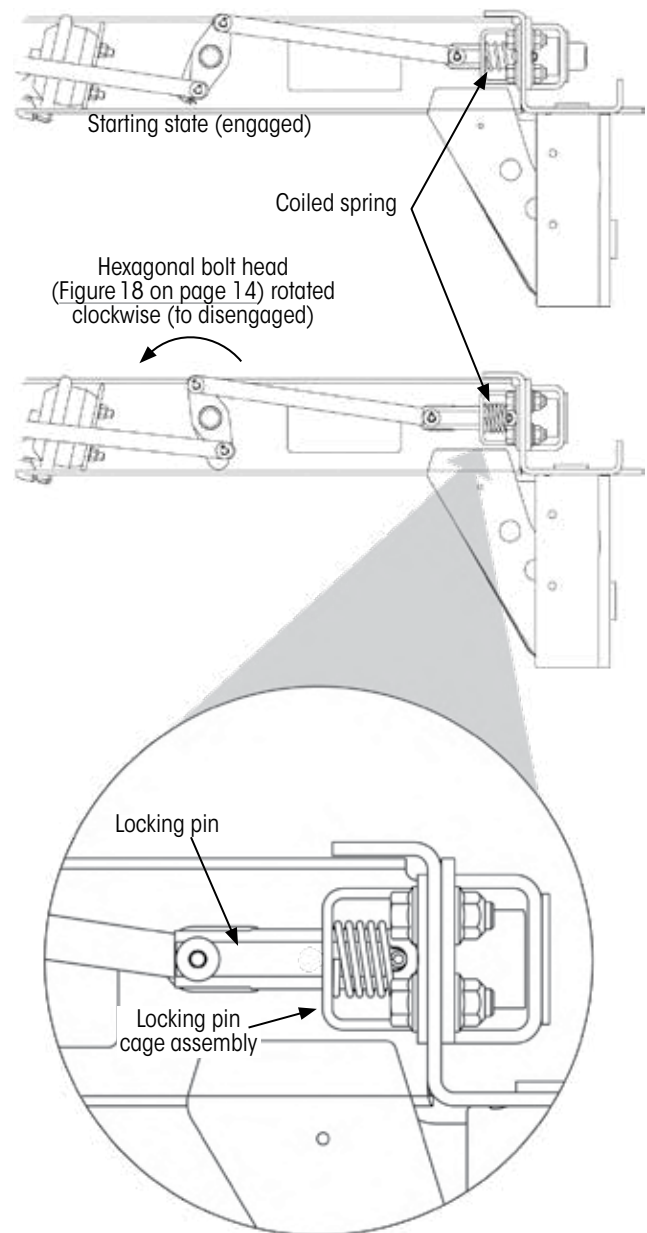

Figure 19: Manually operating the locking pins
- Using a 1½ inch wrench on the hexagonal bolt head, **rotate and hold** the pipe weldment counterclockwise approximately 1/8 turn, or until the hole in a locking pin (Figure 19) is visible on the inboard side of the locking pin cage assembly. If the locking pins are free to move, it will require approximately 60 ft. lbs. (81 Nm) of torque to rotate the pipe weldment.
- Using vice grips **clamp** the locking pin up against the locking pin cage assembly (Figure 19). This will hold all of the locking pins in the retracted position because they are all interconnected by the locking pin linkages and pipe weldment.
9. **Swing** the previously-disconnected actuator link upward, until the clevis pin hole lines up with the holes in the curbside locking pin (Figure 19). The end of the actuator link must fit into the slot in the locking pin.